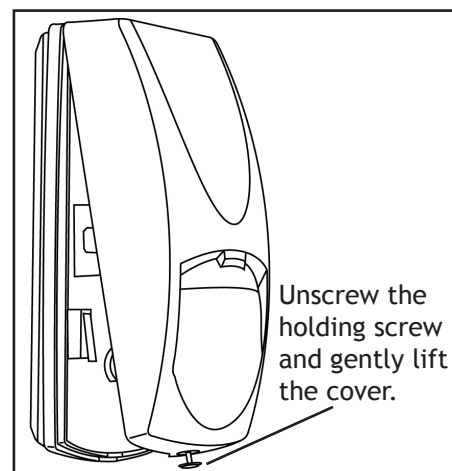

Figure 1: Remove the 1121 Cover
The PIR transmitter provides a survey capability to allow one person to confirm transmitter communication with the receiver while the cover is removed. Refer to Figure 1 to remove the PIR front cover. The PIR transmitter PCB Red Survey LED turns on whenever data is sent to the receiver then immediately turns off when the receiver acknowledgement is received. Pressing the PIR tamper switch is a convenient way to send data to the receiver to confirm operation. The PIR circuit board LED lights to indicate motion and the Survey LED briefly lights to confirm operation. See Figure 3 for LED locations. See Installing or Replacing Batteries.
1. Use a Phillips head screwdriver to unscrew the holding screw at the lower end of the 1121 case, gently raise the front cover, and slide the cover out of the closing pins. Refer to Figure 1.
The 1121 PIR can optionally be attached to a corner/ceiling mounting bracket. The bracket can be mounted to the ceiling or a wall location. Refer to Mounting the Unit, Figure 1 and Figure 5 as needed.
2. Remove the front cover. See Figure 1.